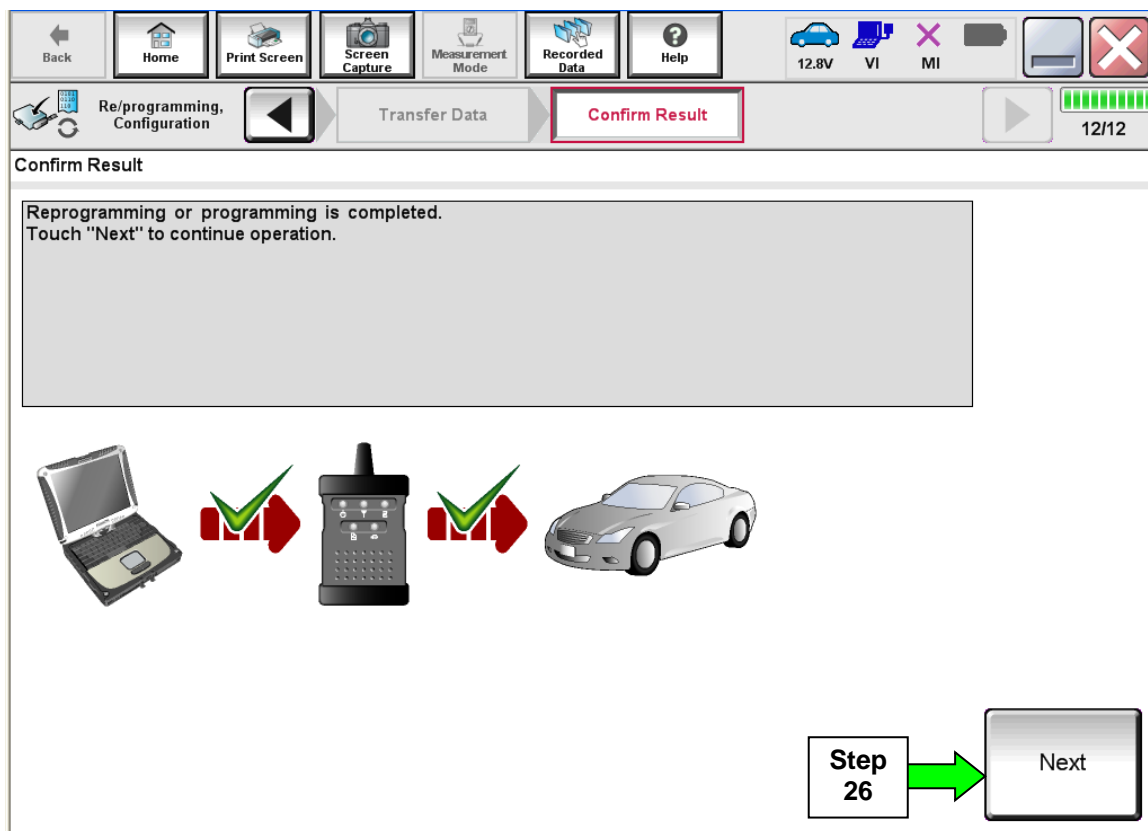

Figure 11
24. When the screen in Figure 11 displays, reprogramming is complete.
NOTE: If the screen in Figure 11 does not display (indicating that reprogramming did not complete), refer to TCM Recovery on the next page.